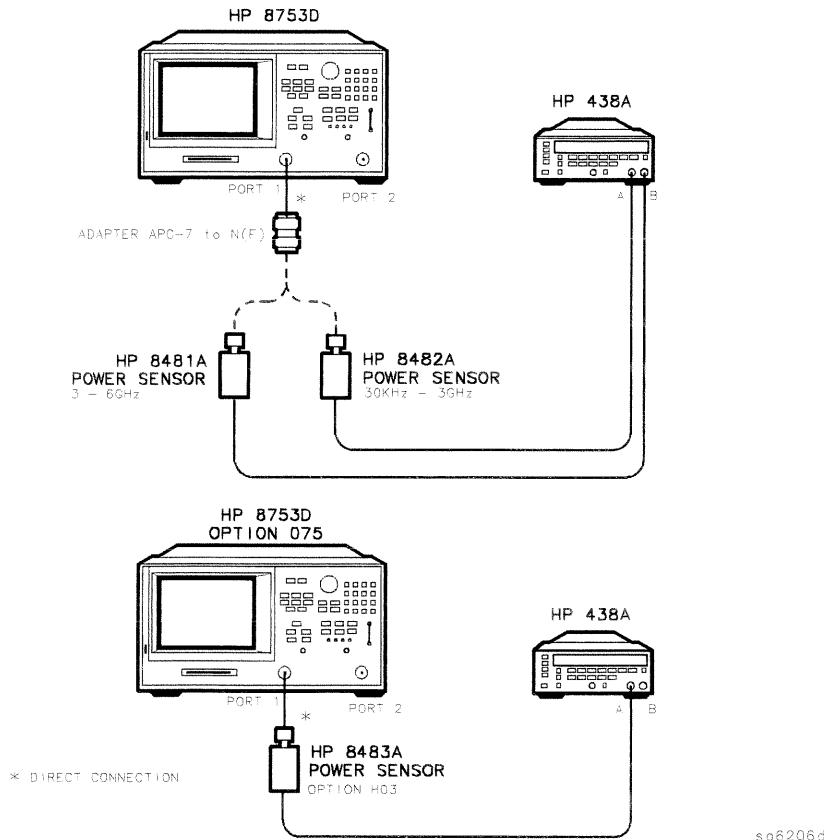

Figure 2-17. Test Port Output Power Range and Accuracy Test Setup
3. Connect the equipment as shown in Figure 2-17.